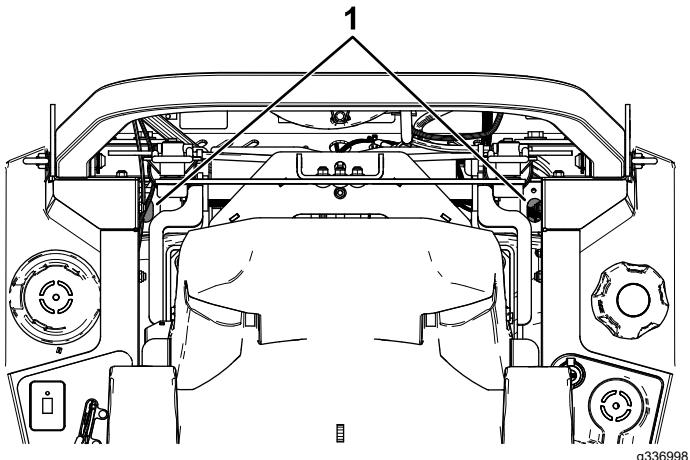

Figure 92
- **For ZT 4400 Hydros,** use an extension and 7/16-inch socket, access the vent plug from the top of the machine through the holes near the roll-bar mounts (Figure 92).